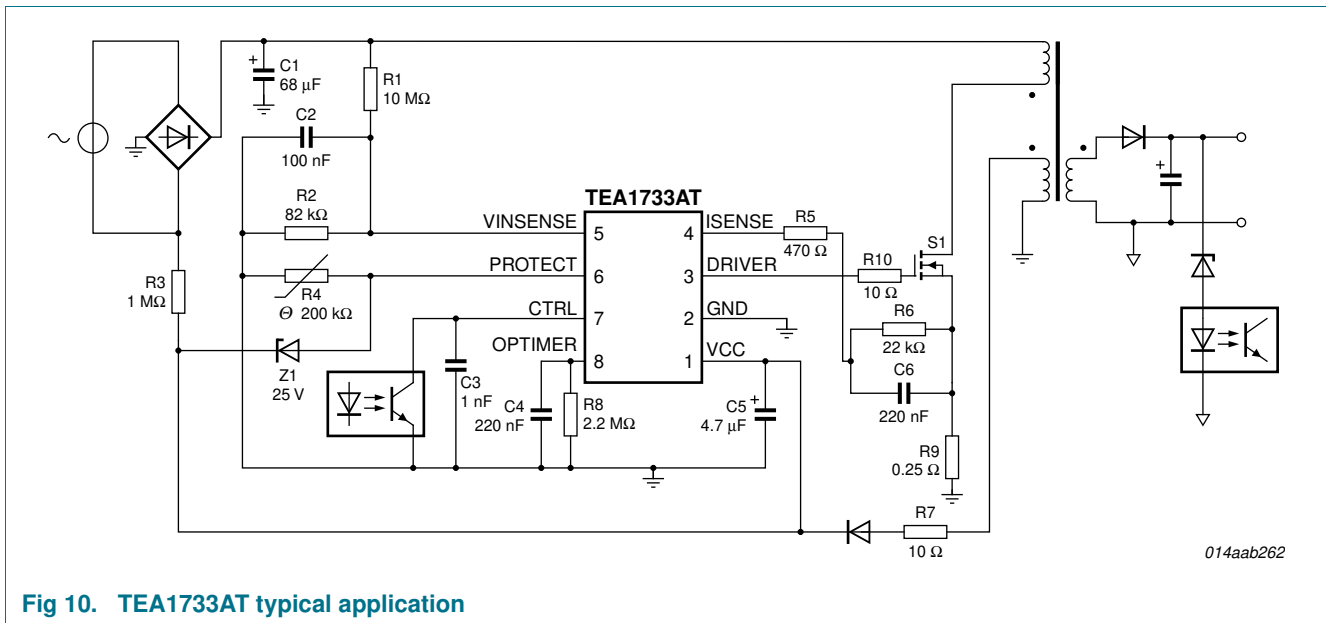

Fig 10. TEA1733AT typical application
A power supply with the TEA1733AT is a flyback converter operating in Continuous conduction mode (see Figure 10).
In the example shown in Figure 10, the PROTECT pin is used for OVP and OTP. The OVP level is set by diode Z1 to $V_{CC} = 25.8$ V. The OTP level is set by Negative Temperature Coefficient (NTC) resistor R4. The VINSENSE pin is used for mains voltage detection and resistors R1 and R2 set the start voltage to about 80 V (AC). The overpower protection time is defined by capacitor C4 at 60 ms.